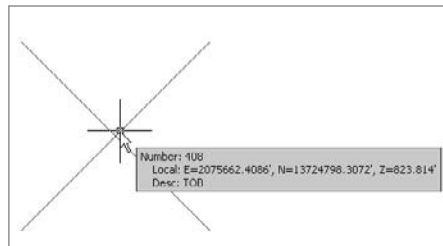

Figure 5.6
11. Hover your cursor over the point on the screen. Note that a tooltip appears with point information, as shown in Figure 5.6.